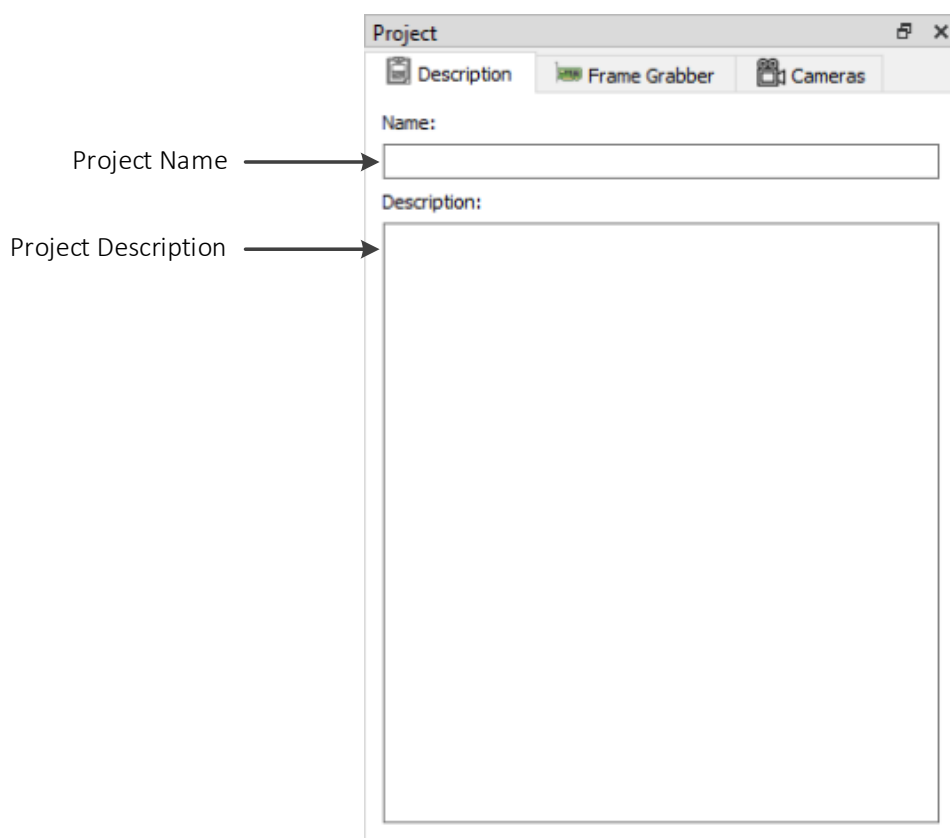

Figure 3 – Project description tab
1. A Description tab is used to specify the project name and description, as shown in Figure 3.